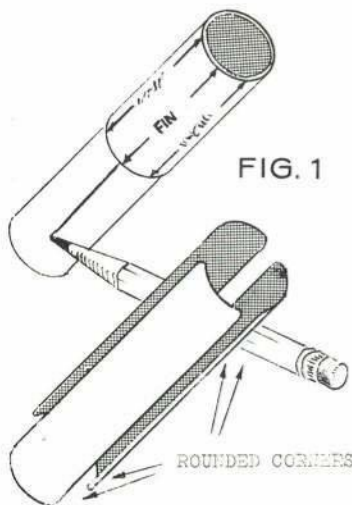

FIG. 1
Begin assembly by tracing the fin guide onto stiff paper, wrapping it around the main body tube as shown in Fig. 1 and taping it together. Mark the body tube at each arrow point. Now slide the fin guide over the short body tube, this time marking only every other arrow point. All these lines must be extended the full length of each body tube. This may be easily done by using any available straight groove as a guide — such things as door jams, moldings or angle iron.
The shorter body tube must be cut into three equal sections, as shown in the lower part of Fig. 1. Cut each corner slightly round.
- STAY-BASE, THREE (651-BT-20M, see Fig 1)